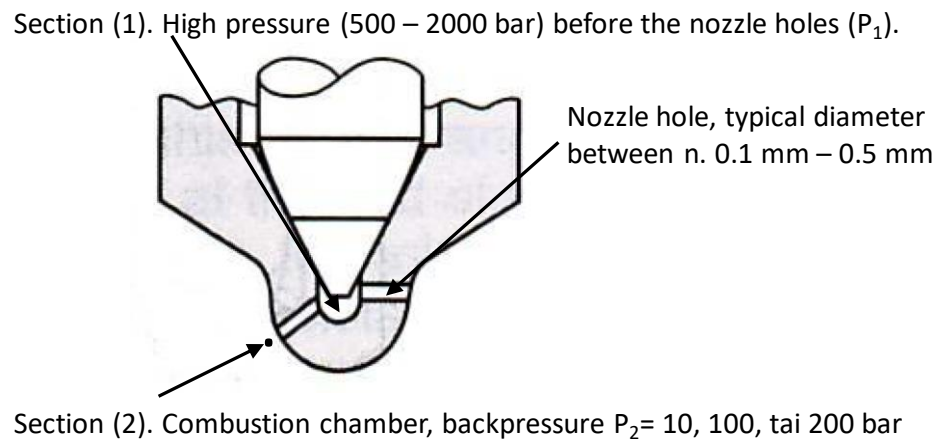

Figure 2. A section cut from an engine nozzle tip.
4. In the nozzle of an internal combustion engine, the liquid pressure is transformed into liquid velocity. In the Figure 2, there is shown the sectional cut of a nozzle tip. By using the Bernoulli equation, calculate the liquid velocities right after the nozzle exit (Section (2),  $V_2$ ). We can assume that the velocity before the nozzle is very low (Section (1),  $V_1$ ). By using Matlab, show the injection velocity by using injection pressures between 500-2000 bar with 100 bar steps. In addition, the